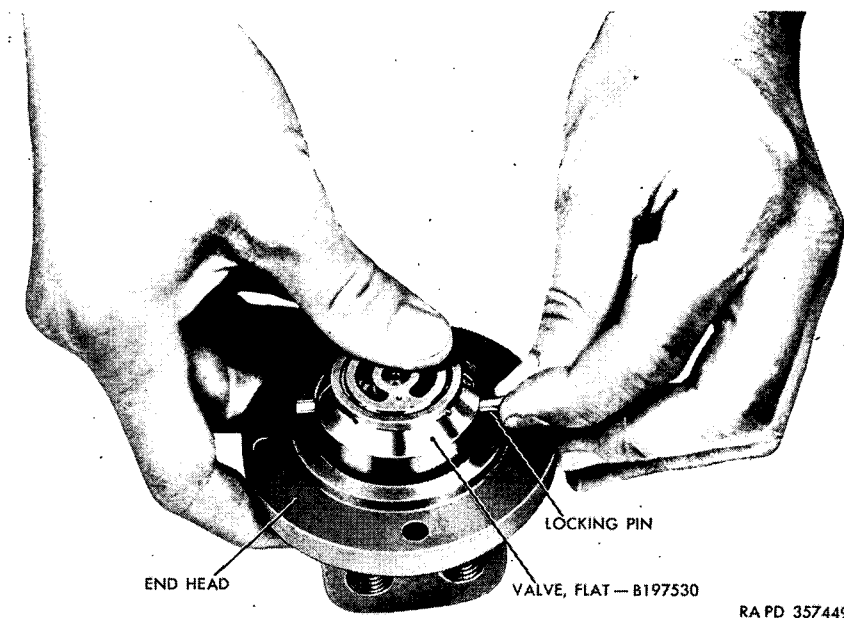

Figure 33. Removing or installing flat valve.
c. **DISASSEMBLE END-HEAD ASSEMBLY** (figs. 33, 34, and 35). Lay nameplate surface of end head on two small blocks to straddle elbow fitting. Depress flat-valve lightly with thumb and pull out the two locking pins (fig. 33). Lift off flat valve and hold-down tumblers. Lift out back-up pistons and back-up springs. Lift out two equalizer pistons from flat valve. If necessary, insert a No. 8-32 screw to remove equalizer pistons.
(fig. 33) to insert the two lock pins. Insert check valve disks and springs into holes in sides of end head. Slide copper gaskets on caps and screw caps down securely over the springs.